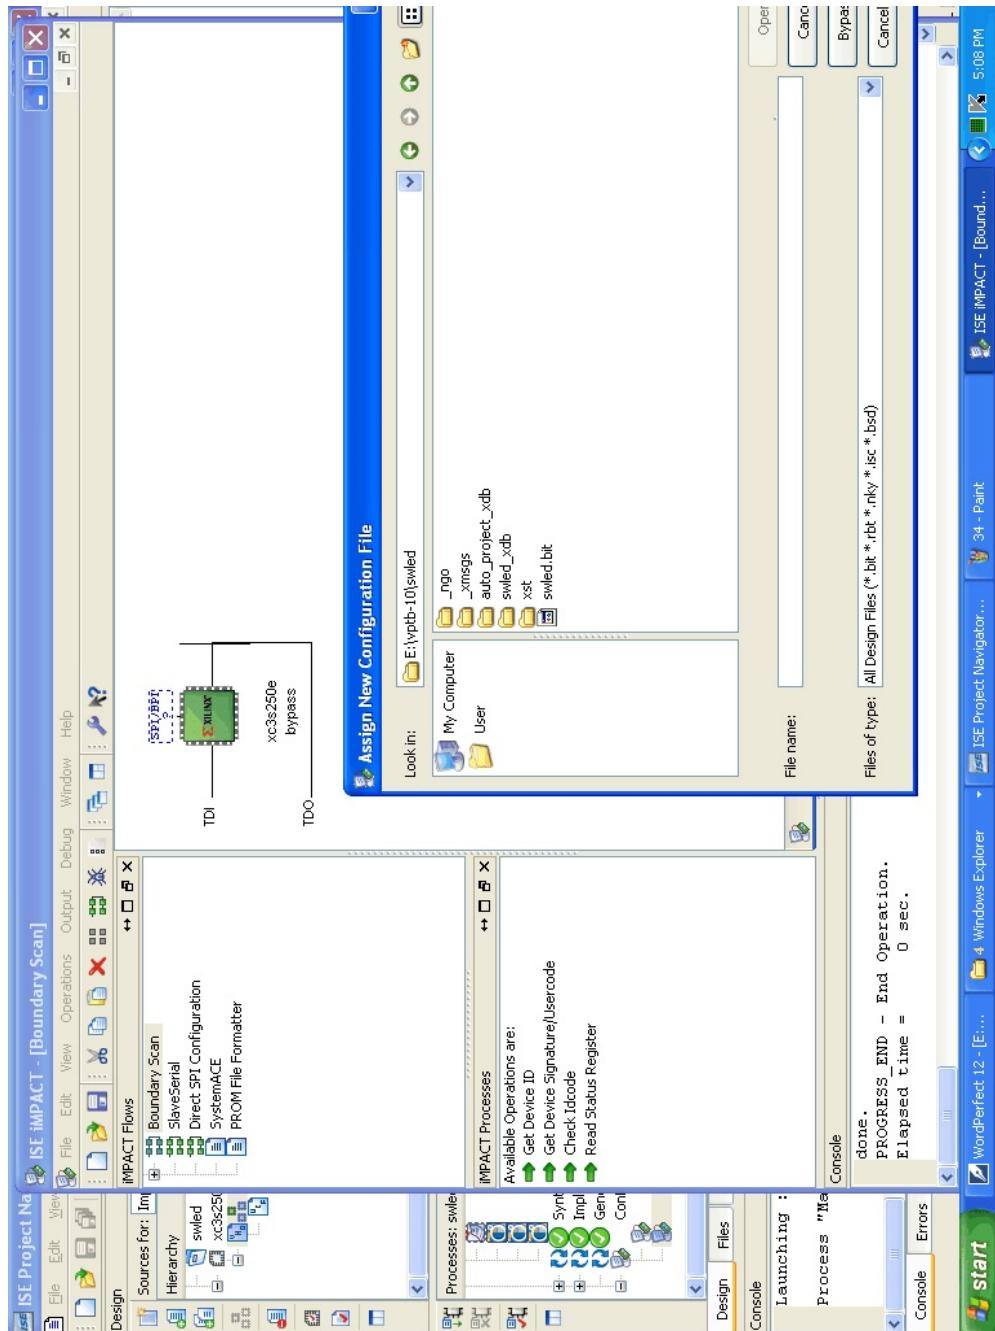
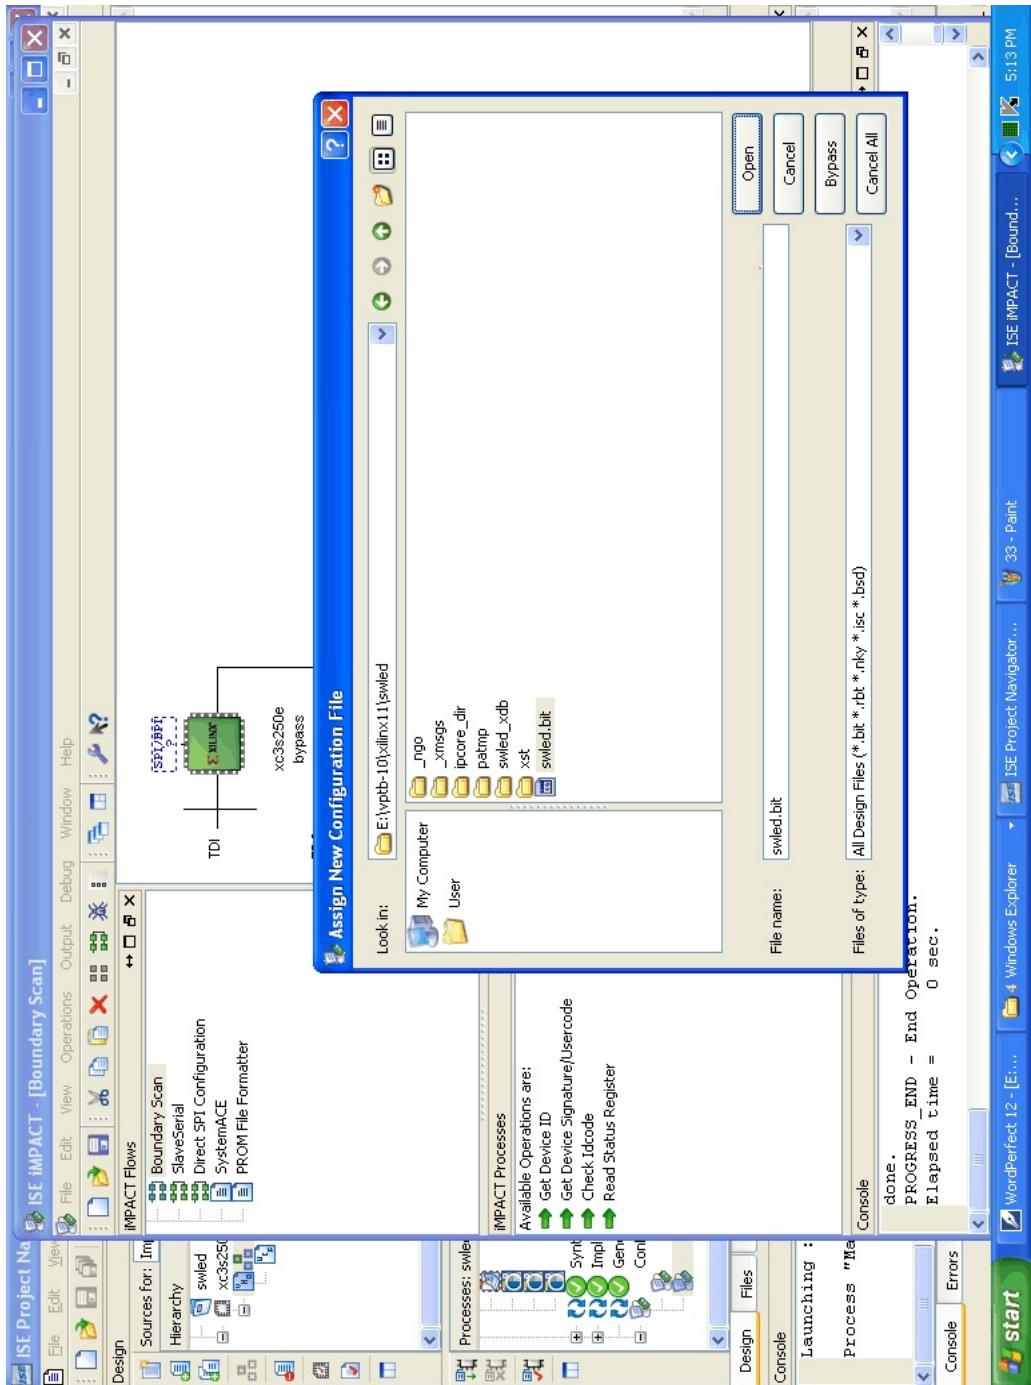
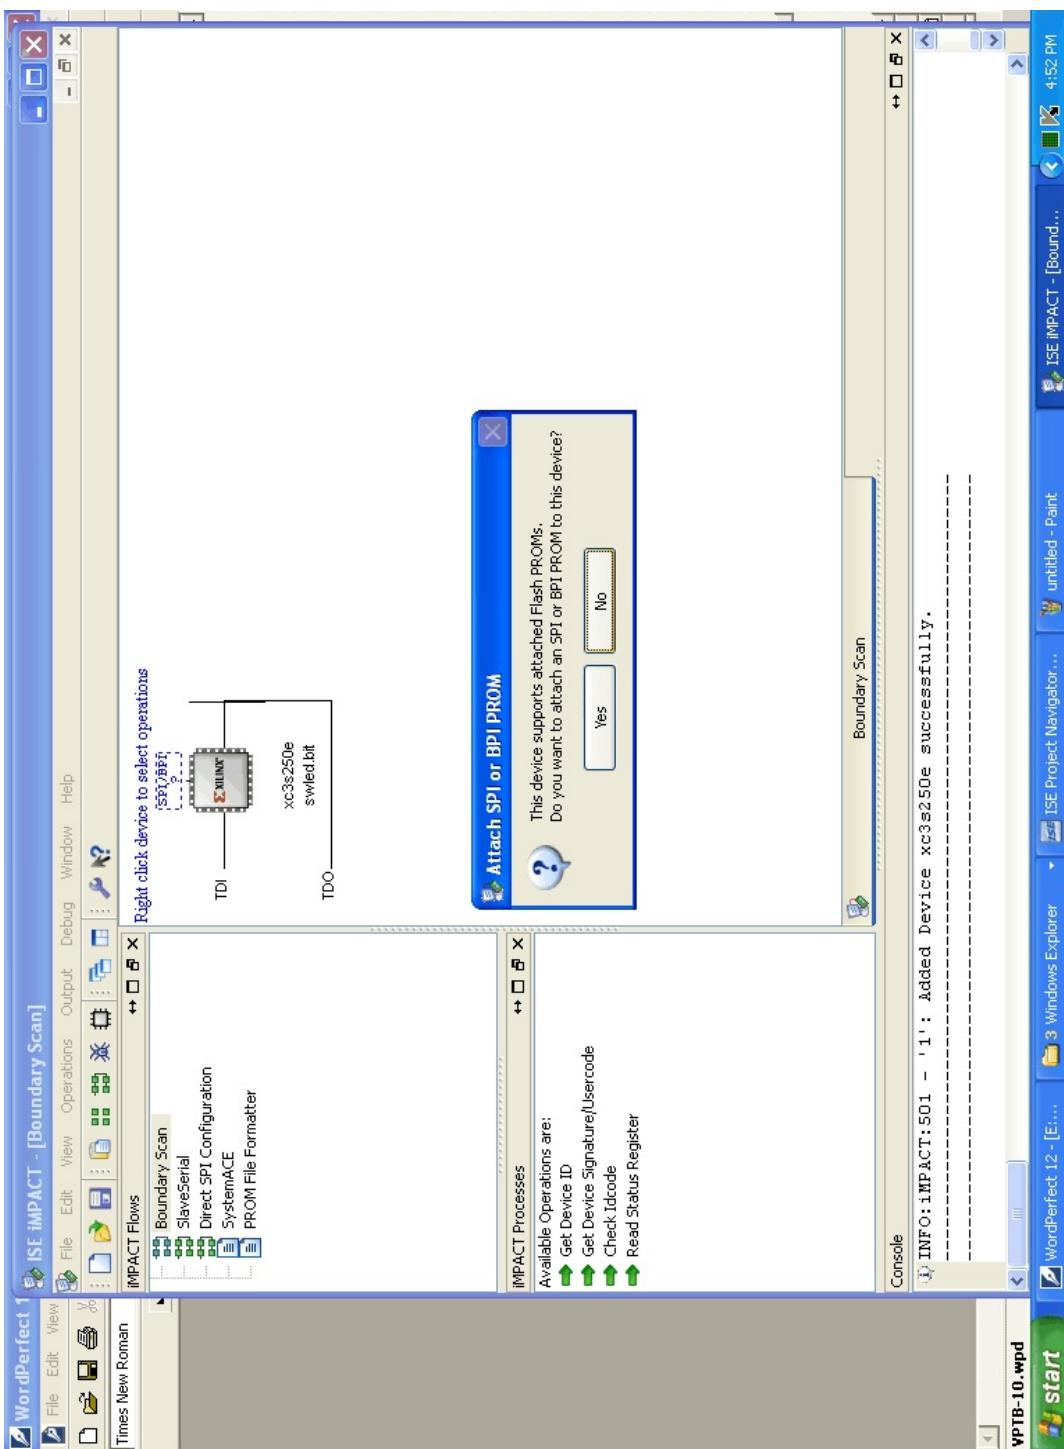
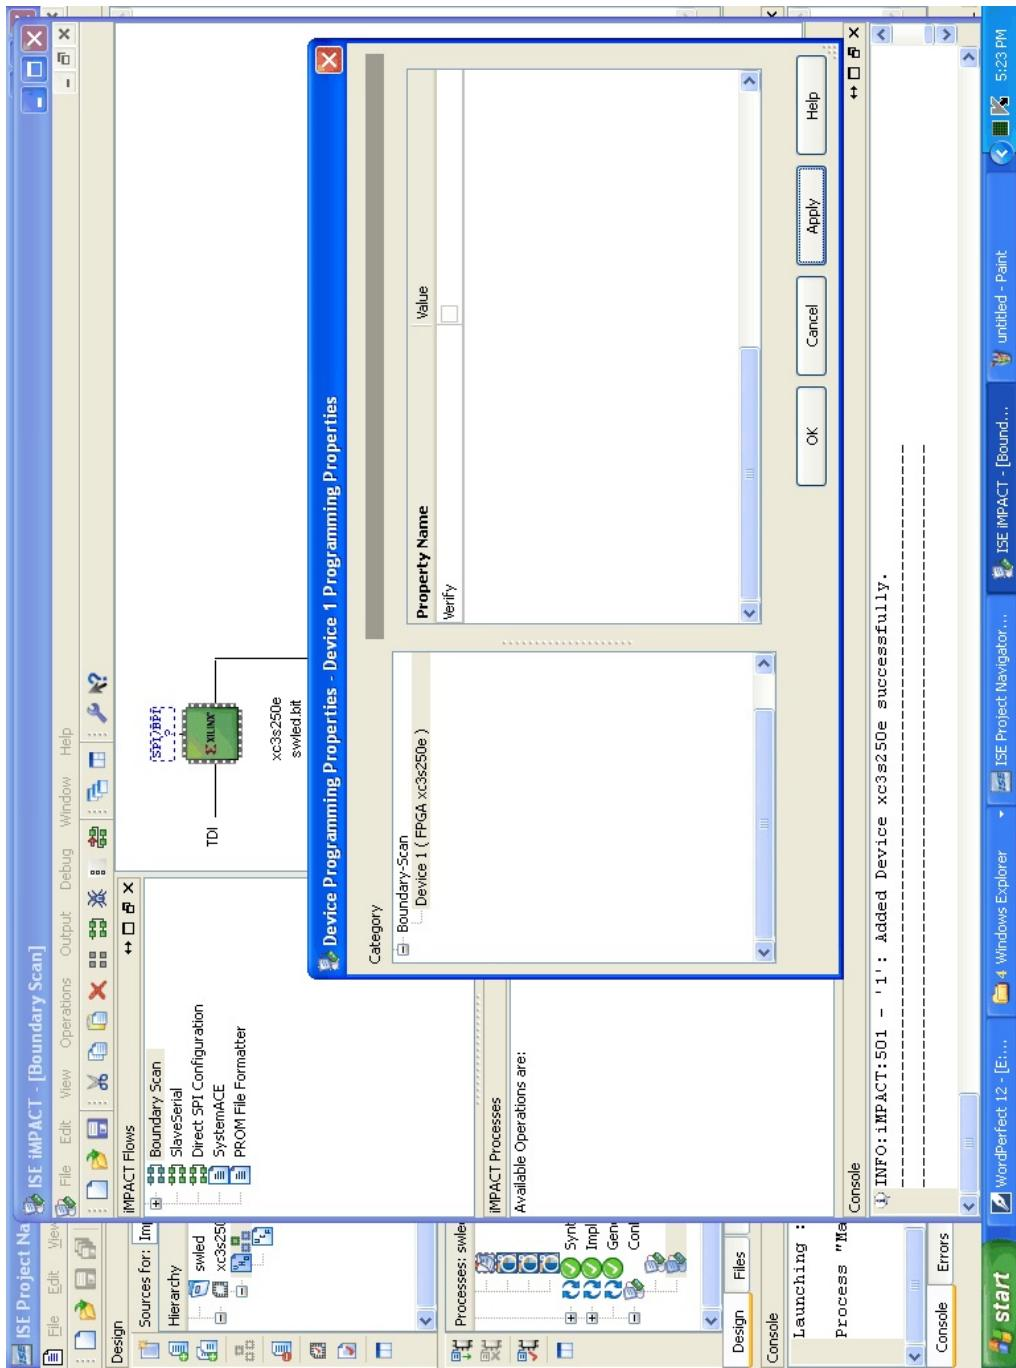

Figure-33
Figure-34
Figure-35
Figure 36a
12. A new window named **Assign New Configuration File** as shown in **Figure-33** will appear. Now select the respective **.bit** file from the correct project path you want to download in that window and click **Open**(refer **Figure-34**). In the new window that appears click **No** (refer **Figure-35**). In the new window click **OK** (refer **Figure 36a, 36b**).